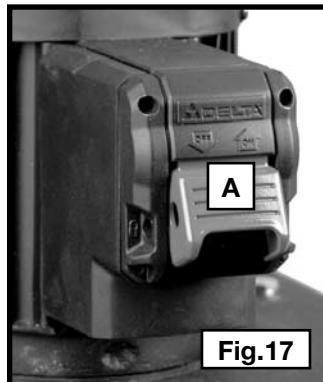
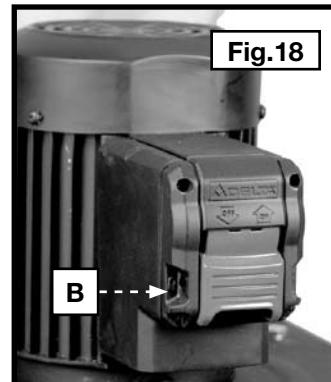

Fig.17
Fig.18
The on/off switch (A) Fig. 17 is located on top of the motor. To turn the machine "ON", move the switch up to the "ON" position (Fig. 17). To turn the machine "OFF", move the switch down to the "OFF" position (Fig. 18).
IMPORTANT: When the machine is not in use, the switch should be locked in the "OFF" position to prevent unauthorized use, using a padlock at (A) Fig. 18 with a 1/4" diameter shackle.